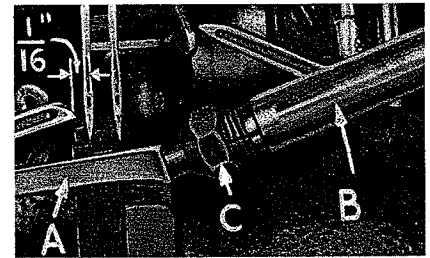

Fig. 5
At this point, insert lower looper (A, Fig. 5) into bar (B). With the lower looper at the left end of its stroke, set looper point $1/16$ inch from center of left needle (Fig. 5), using looper gauge No. 21225- $1/16$. Do not have lower looper deflecting needle. Tighten nut (C).